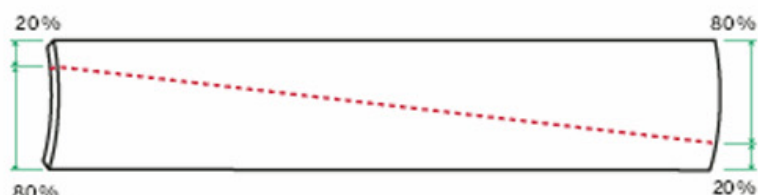

Fig. 2
**1d.** Place the four 75° strips concave-side-down. For each one, make a mark 20% of the width of the strip from one corner along the diagonally opposite side as shown (see Fig. 2).